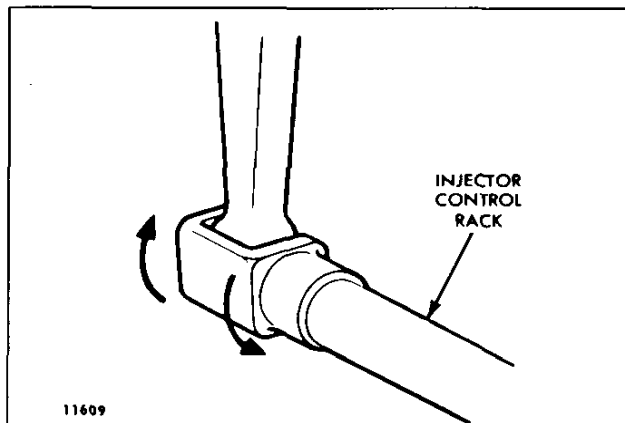
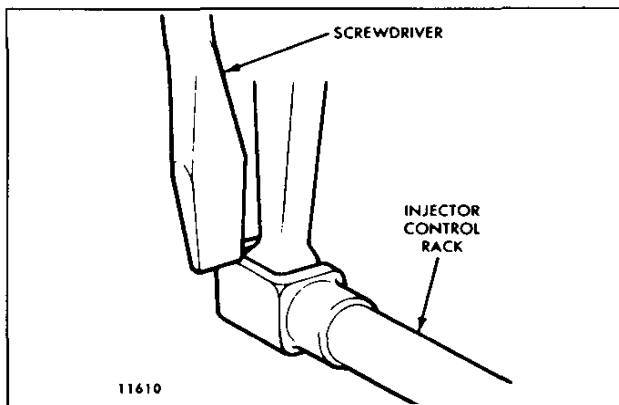

Fig. 3 - Checking Rotating Movement of Injector Control Rack
Fig. 4 – Checking Injector Rack "Spring"
6. To be sure of the proper rack adjustment, hold the speed control lever in the *full-fuel* position and press down on the injector rack with a screwdriver or finger tip and note the "rotating" movement of the injector control rack when the speed control lever is in the maximum speed position (Fig. 3). Hold the speed control lever in the maximum speed position and, using a screwdriver, press downward on the injector control rack. The rack should tilt downward and when the pressure of the screwdriver is released, the control rack should "spring" back upward (Fig. 4).